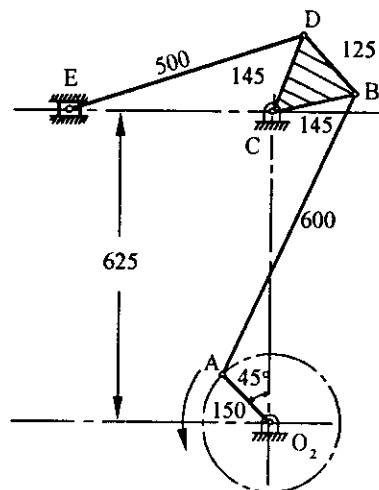

Fig. 3.41
10. The crank O_2A of the mechanism shown in fig. 3.41 rotates at 60 rpm. Determine,